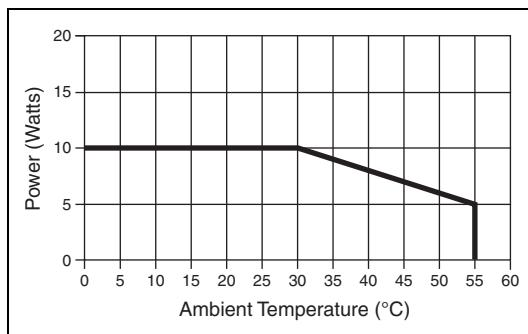

Figure 4. Maximum Sinking Power versus Ambient Temperature for Channel 1
* Current input/output for channel 1 is limited to 2 W or 300 mA when operating under internal power. Continuous sinking power for channel 1 is limited to 10 W, subject to derating above 30 °C. Refer to Figure 4, Maximum Sinking Power versus Ambient Temperature for Channel 1.